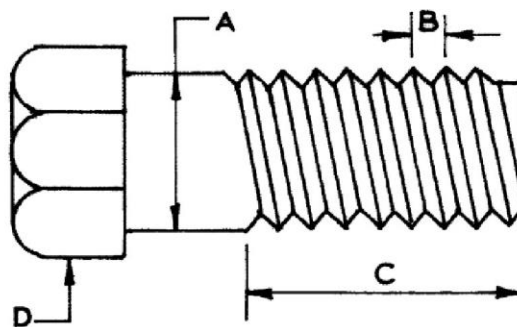

Fig.1
- (b) Name the parts labelled A, B, C and D on the fastener in **figure 1**. (2 marks)